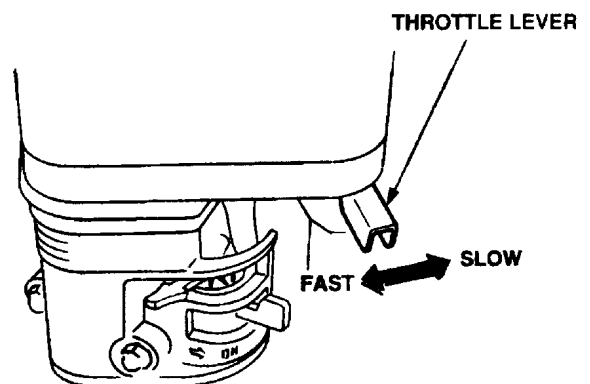

Figure 22. Throttle Lever
- Rotate the throttle lever (Figure 22) halfway between fast and slow for starting. All sawing is done at full throttle. The engine governor speed is factory set to ensure optimum blade operating speeds.
2. Rotate the throttle lever (Figure 22) to full throttle.